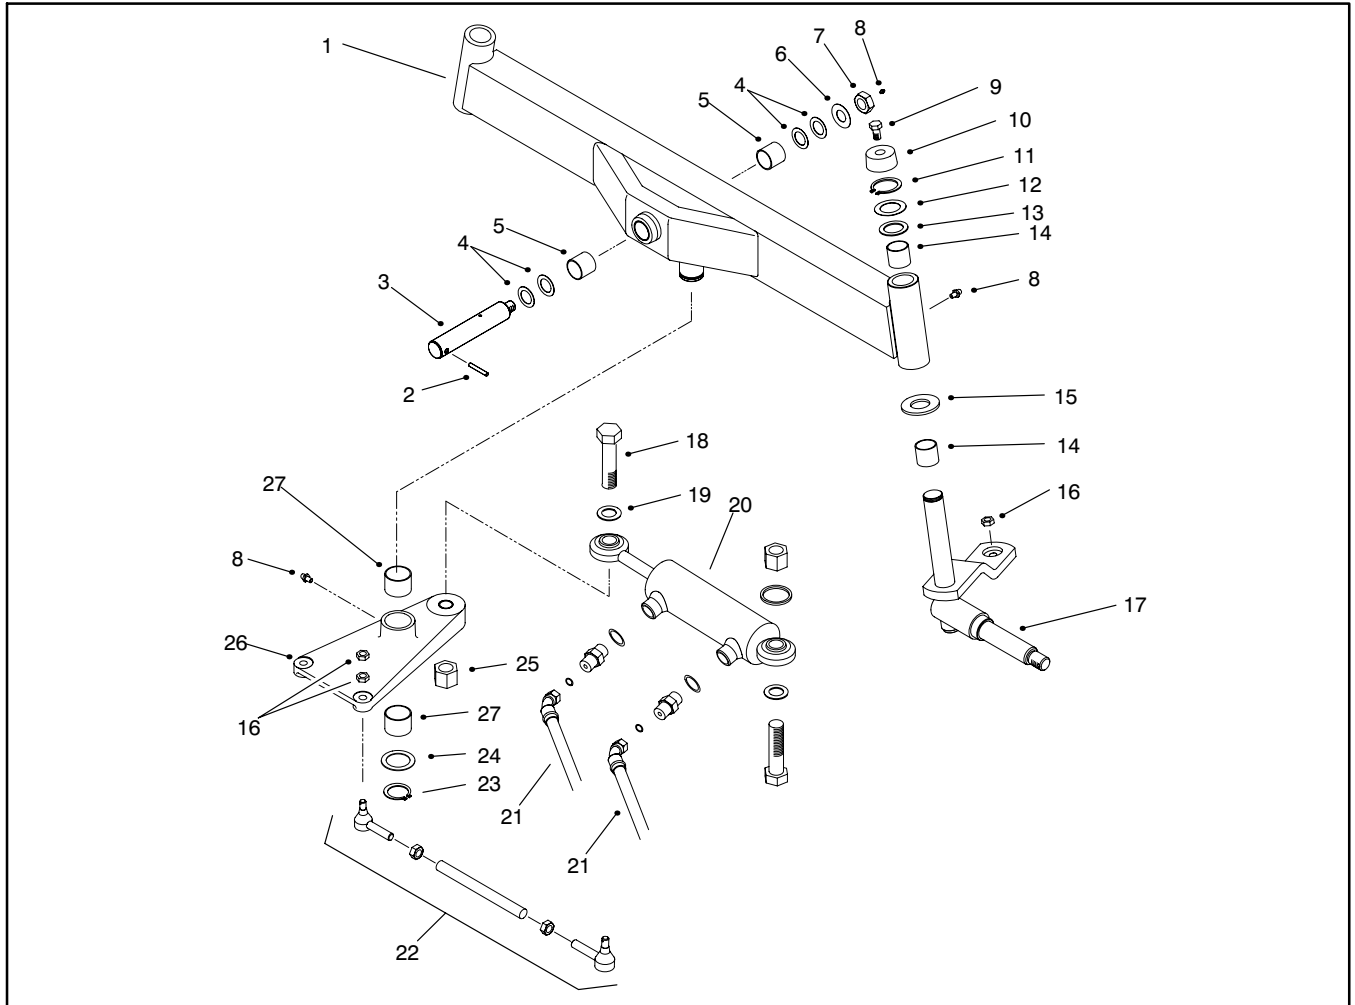

Figure 15
2. Remove the jamnut and thrust washer (or capscrew) securing the end of the axle pivot pin to the chassis (Fig. 15).
1. Remove the lock nut, cap screw, and thrust washer securing the steering cylinder rod end to the steering pivot plate (Fig. 15).
2. Remove four (4) jamnuts to disconnect both tie rod ends from the pivot plate. Inspect all tie rod end ball joints for wear or damage and replace as necessary.
7. Connect each tie rod end to the pivot plate with two (2) jamnuts. For each tie rod, tighten the first nut to a torque of 25 to 33 ft-lbs. (34 to 45 Nm). Install the second jamnut and tighten against the other nut to secure tie rod end.
2. Remove the jamnut and thrust washer securing the end of the axle pivot pin to the chassis (Fig. 15).